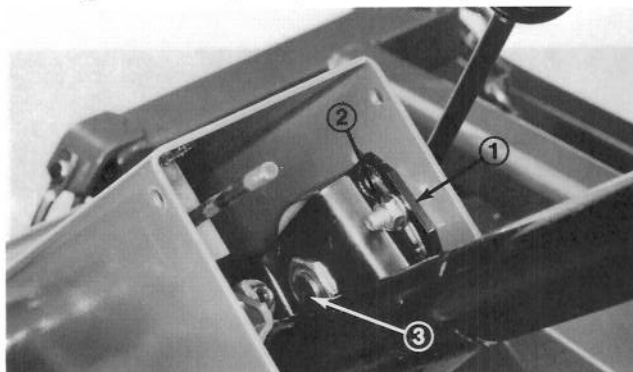

Figure 56
1. Remove knob from parking brake and self tapping screws from steering column cover. Slide cover up steering shaft to expose pivot bracket (Fig. 56).
2. Loosen small nut, rotate pivot bracket until it tightens large nut below (Fig. 56). Retighten small nut.